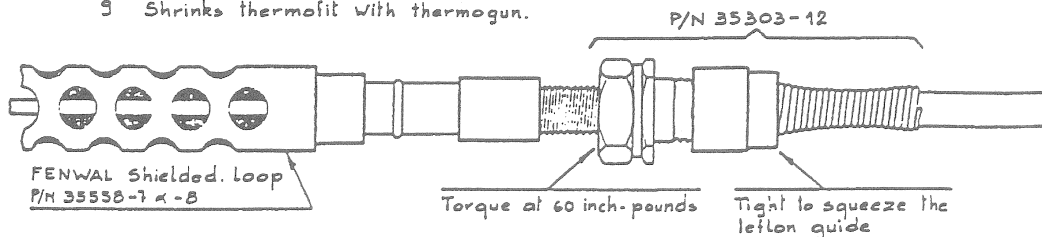

fig 02
a) If necessary , install new bushings, pins, wires & sleeves, (see fig 02).